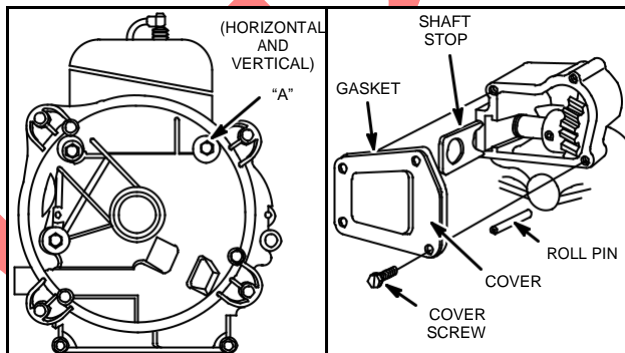

Fig. 345 - SEALANT ON SCREW "A"
3. Install sump and gasket being sure screw "A," Fig. 345 has nonhardening sealant on threads such as Permatex II.
**NOTE:** On right angle auxiliary drive power take-off models, screw "A" does not need sealant but the four screws holding the gear sump cover require sealant, Fig. 345.